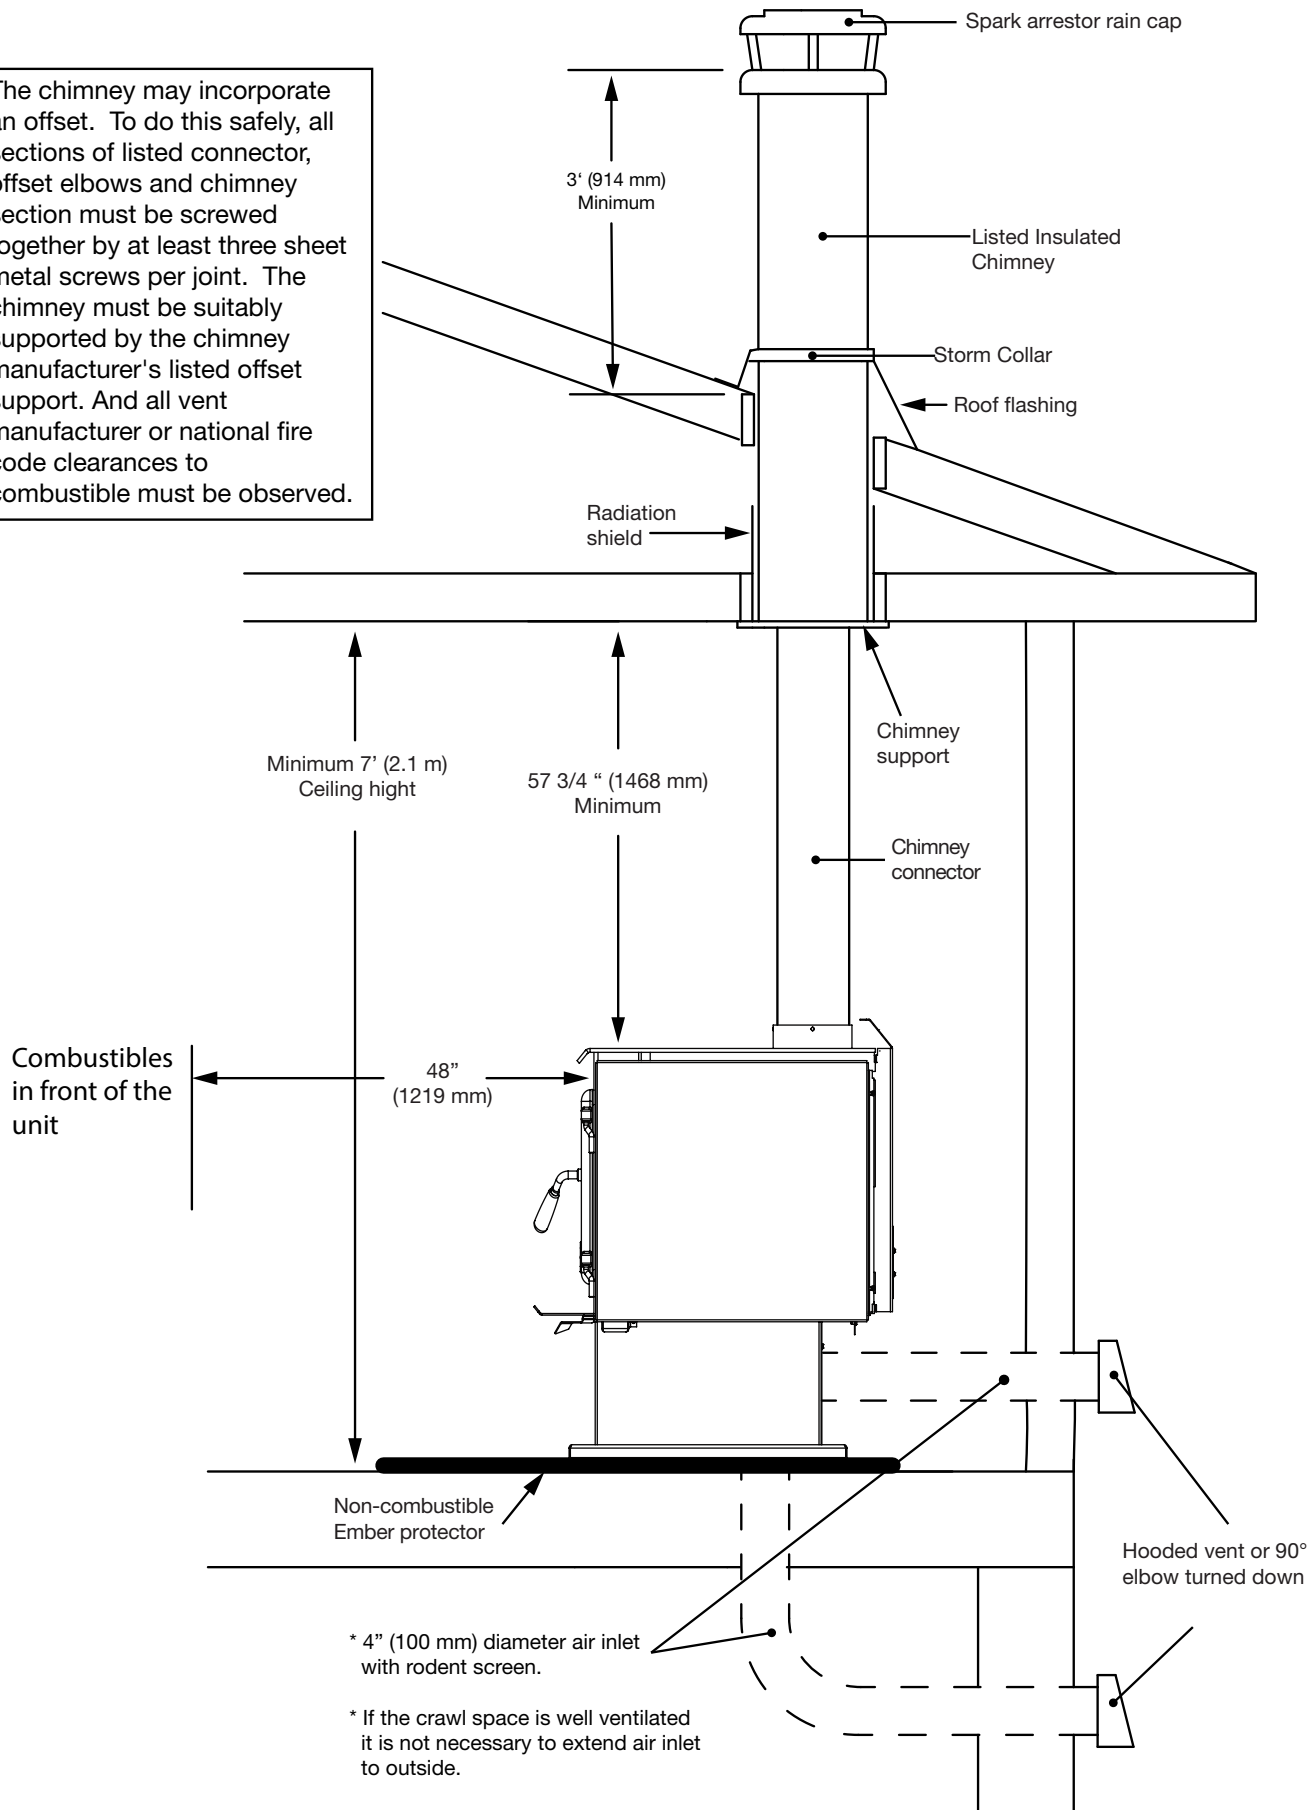

Figure 12: Mobile home or typical home installation.
- To draw outside air through the floor; leave the knockout or square cover plate in the rear of the pedestal in place. Use an approved 4"(100mm) inlet vent cap. Cut or drill a 4"(102mm) diameter or larger hole in the floor anywhere inside the perimeter of the pedestal base. Cover the hole with a 20GA wire mesh minimum, rodent screen and staple/nail in place. This hole must get its air from a ventilated crawl space or be extended with duct to the outdoors (see Figure 12 on page 17 or Figure 13 on page 18)
- To draw outside air through the floor; Cut or drill a 4"(102mm) diameter or larger hole in the floor under the stove. Attach the outside air adapter (11100005) to the underside of the stove. Connect the adapter to the hole using 4"(102mm) flexible or rigid metal venting. Cover the hole with a 20GA wire mesh minimum, rodent screen and staple/nail in place. This hole must get its air from a ventilated crawl space or be extended with duct to the outdoors (see Figure 12 on page 17 or Figure 13 on page 18. if extended use an approved 4"(102mm) inlet vent cap